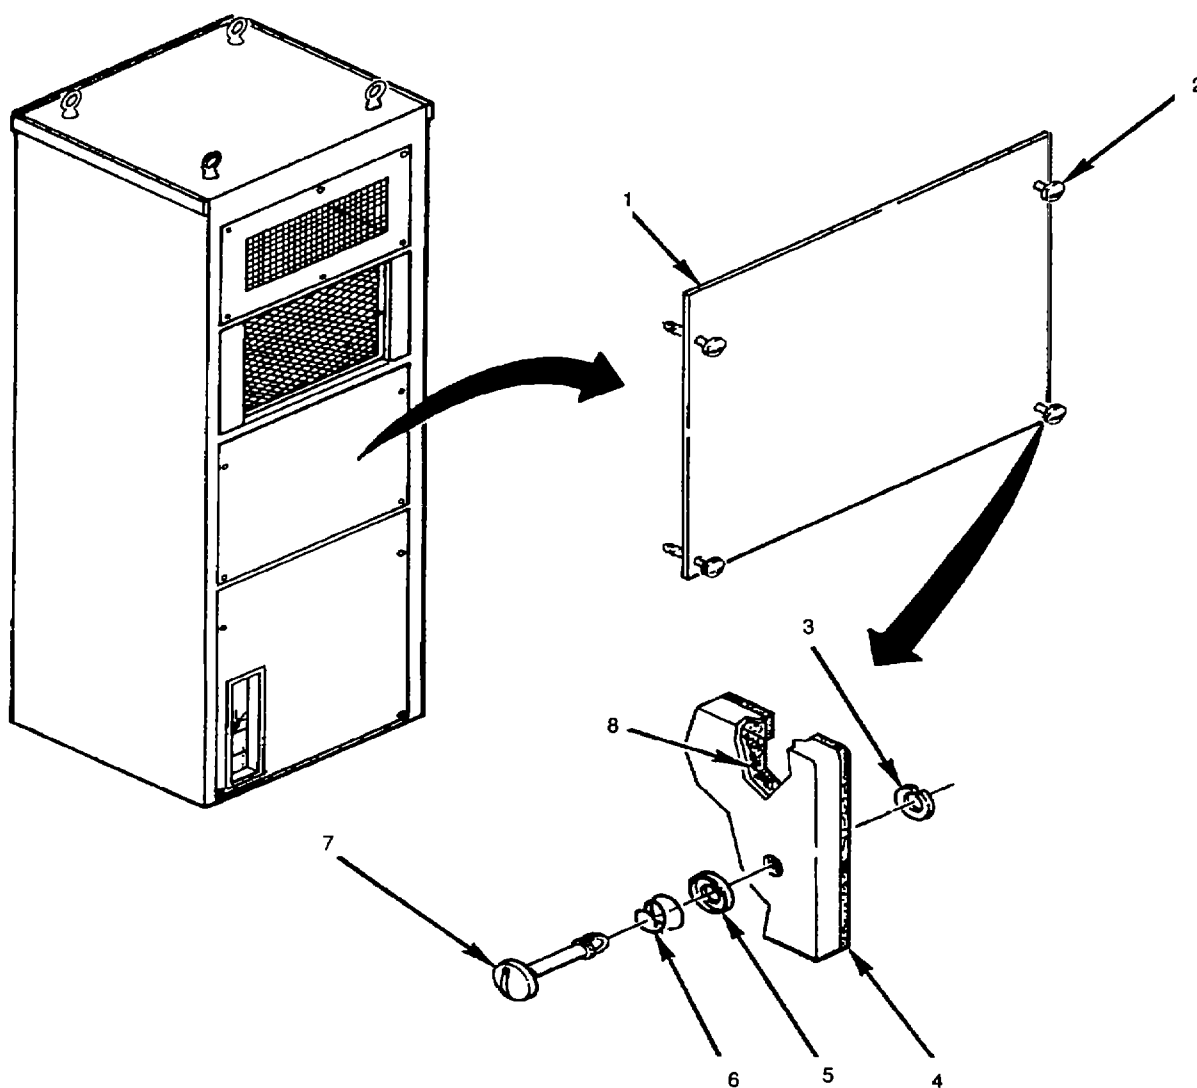

Figure 4-14. Condenser Fan Section Panel
- a. Loosen four captive fasteners (2) (see fig. 4-14)
- b. Remove panel (1).